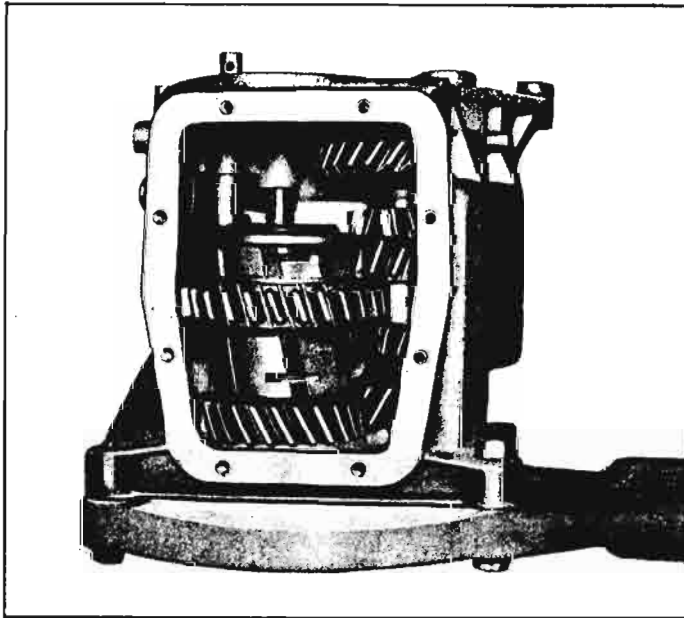

Fig. 6D-26—Second and Third Speed Clutch, Sliding Gear and Second Speed Gear Installed
26. Tap the clutch gear bearing into the case, then open retainer ring and fully seat bearing as indicated by seating of the retainer ring in the bearing groove (fig. 6D-28).